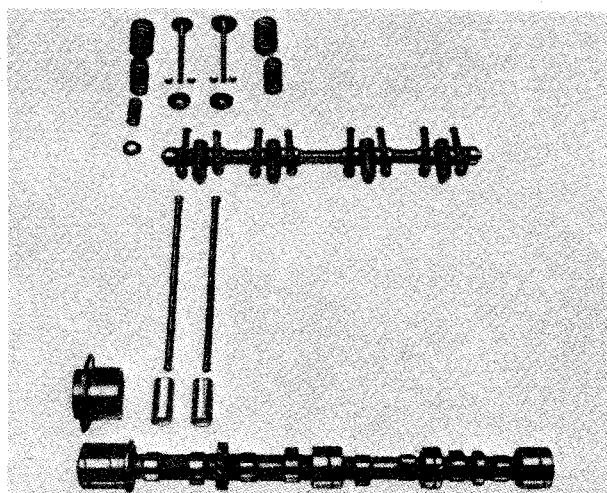

Fig. 9 Exploded view of Valve Operating Gear.
Inlet valves are provided with two springs. Three springs are used on the exhaust valves only (Fig. 9). Valve springs are located by a valve collar and held in position by split taper collars. The close coil of the valve springs must always be fitted to the cylinder head.
- (h) **The Camshaft** (Fig 9) is of special iron alloy having chilled cam faces and is provided with four journals. The front journal is accommodated in a flanged cast iron bearing, whilst the other journals are mounted direct in the cylinder block.